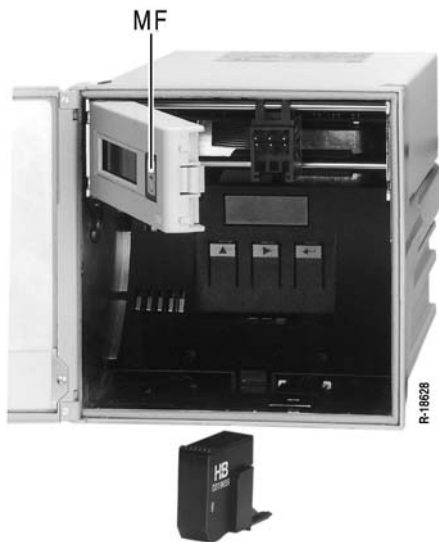

Figure 9 Placing the color head (display version)
Display version (see Figure 9)
5. Place the color head as shown in Figure 9.